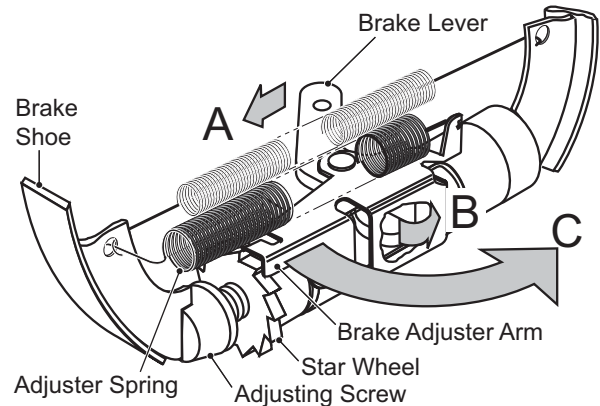

Figure 2 Automatic Adjuster Mechanism
When the brake pedal is applied, the brake lever moves toward the front of the vehicle (A) (Ref. Figure 2).